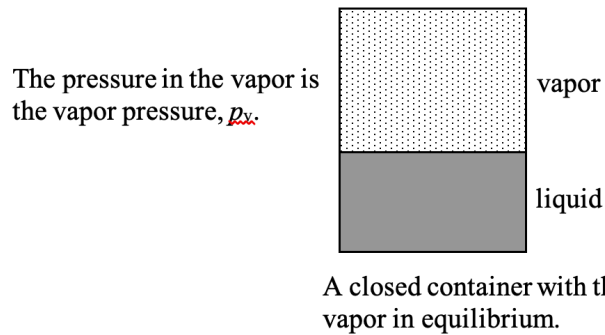

FIGURE 1.12. Illustration of liquid and vapor in equilibrium in a closed container. The pressure in the vapor is  $p_v$ .
- The vapor pressure,  $p_v$ , of a liquid is the pressure at which the liquid is in equilibrium with its own vapor (Figure 1.12).